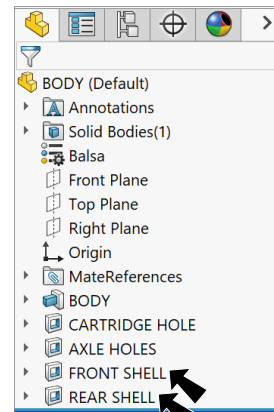

Fig. 15
Step 1. Rename Cut-Extrude3 and Cut-Extrude4 to **FRONT SHELL** and **REAR SHELL** in the Feature Manager, **Fig. 15**. To rename, click feature and press **F2** on keyboard. Key-in new name.